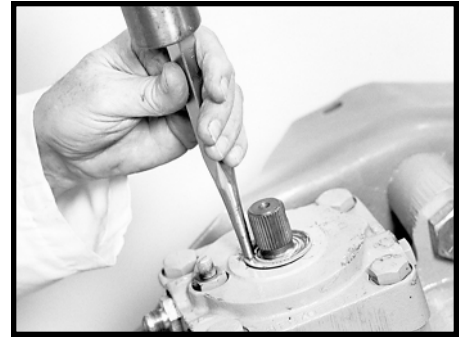

Figure 31
2.9 Install the new dirt and water seal (4) with tool J28490 or a suitable blunt end drift. SEE FIGURE 31.